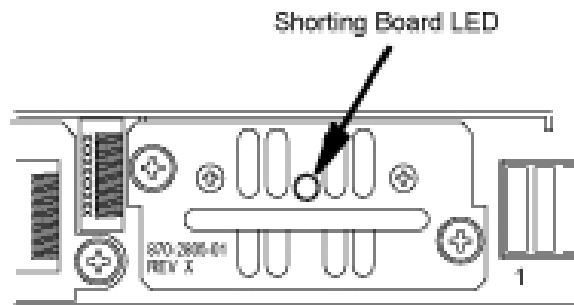

Figure 38: Shorting Board Faceplate, Normal Mode
2. Locate two screws securing the Shorting Board in its slot (see *Figure 38: Shorting Board Faceplate, Normal Mode*). Note the orientation of the Shorting Board LED. Turn the screws at each corner of the board to the left until they disengage.